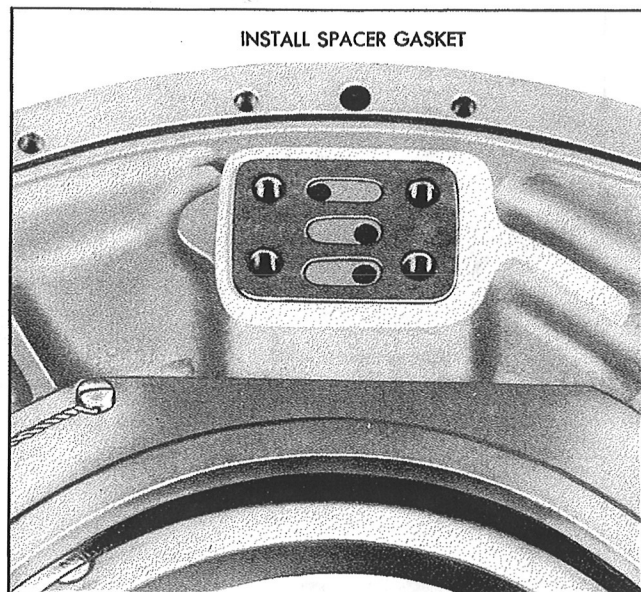

Figure 147—Installation of the Governor
Step 5.—Install the governor spacer gasket, as shown in Figure 147.